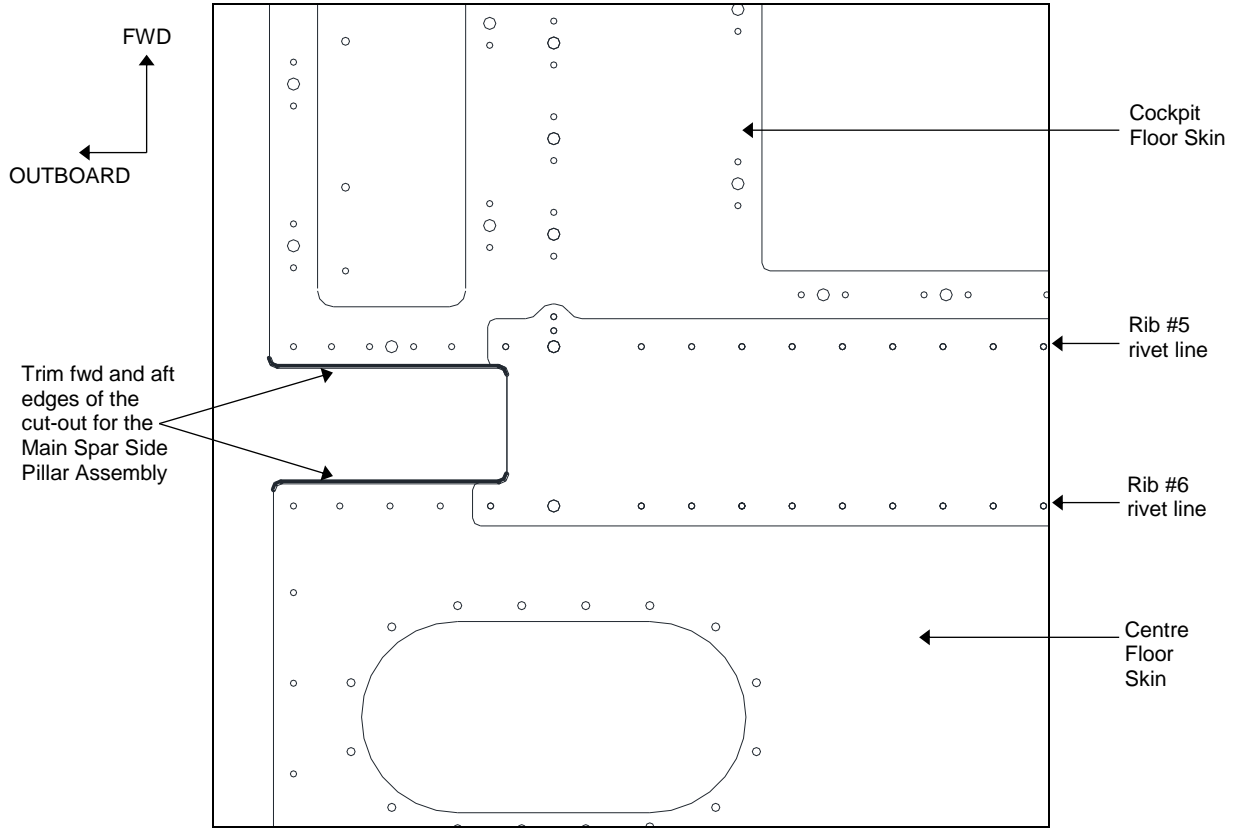

Figure 36: Floor skin to be trimmed. LHS shown, RHS is opposite.
- 1) Trim aft edge of Cockpit Floor Skin by 0.100" +/- 0.005" as shown in Figure 36.
- 2) Trim forward edge of Centre Floor Skin by 0.100" +/- 0.005" as shown in Figure 36.